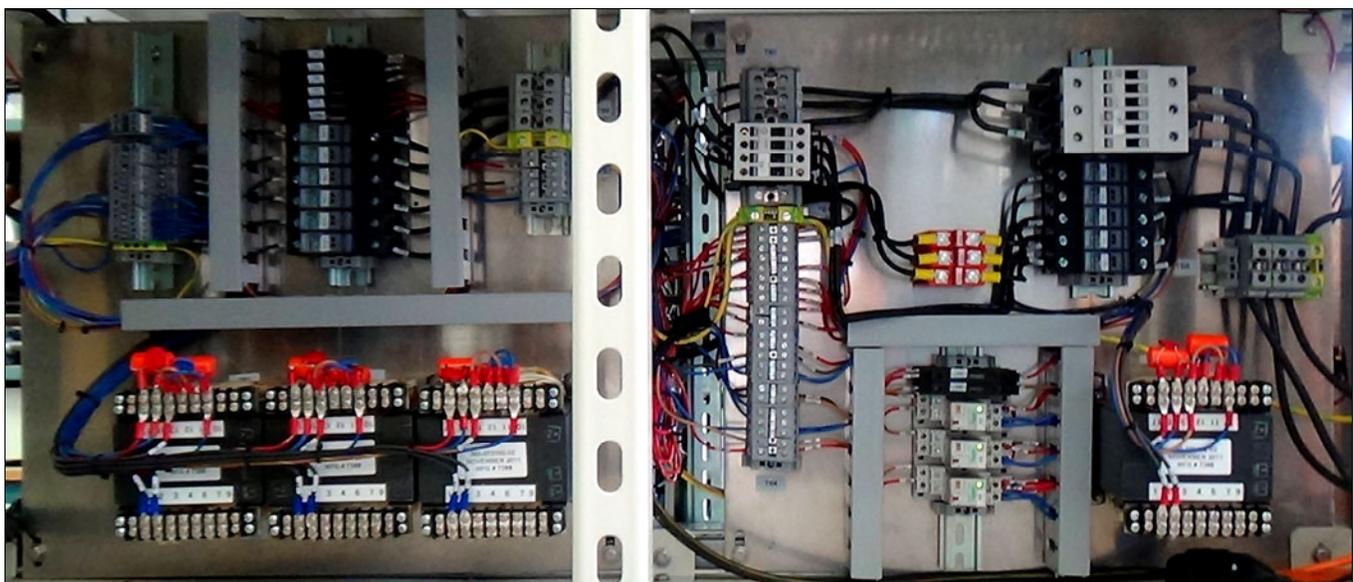

Figure 3-2 Power Distribution and Safety panels
**Safety panel** – Point where power enters the furnace. Contains main contactor. Located at furnace entrance, back side (Figure 3-2).
**PDP or Power Distribution Panel** – Distributes power 3 phases. Located next to Safety panel on furnace back side (Figure 3-2).